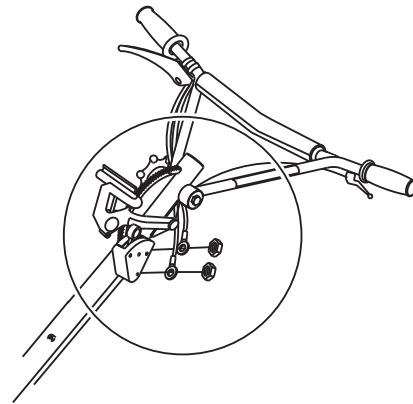

Figure 14. Wiring Connection
6. Connect the two wires from the Operator Presence Lever to the Safety Stop Switch terminal lugs. (one per lug; either position). Reinstall and tighten the nuts. (Figure 14).